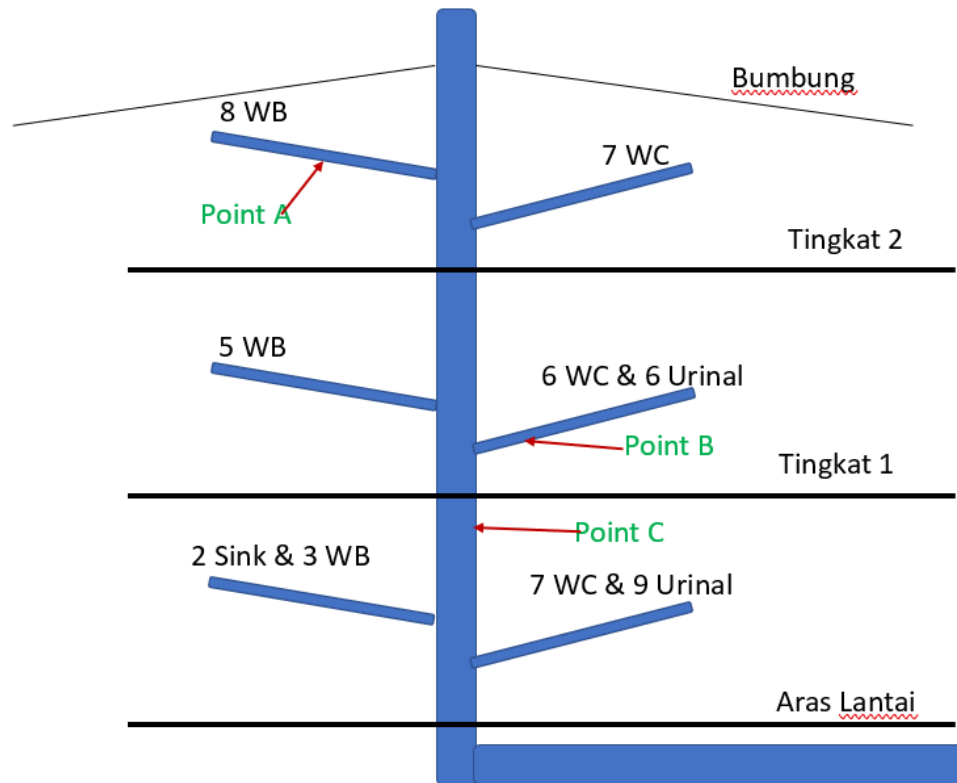

Figure 1: Sanitation pipe schematic diagram for a shopping mall
- (b) Referring to Figure 1 and Table 1, calculate the loading units at 'Point A', 'Point B' and 'Point C' for a shopping mall.